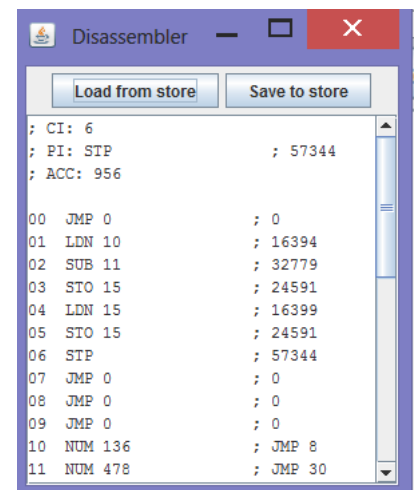

Fig. 9 - Example Program Lines in the Disassembler
- Continue until all the program lines are typed in as shown to the left of the semicolons for each line (see Fig. 9). Any unused lines can be left as they were, and you can leave anything to the right of semicolons on the edited lines unchanged.